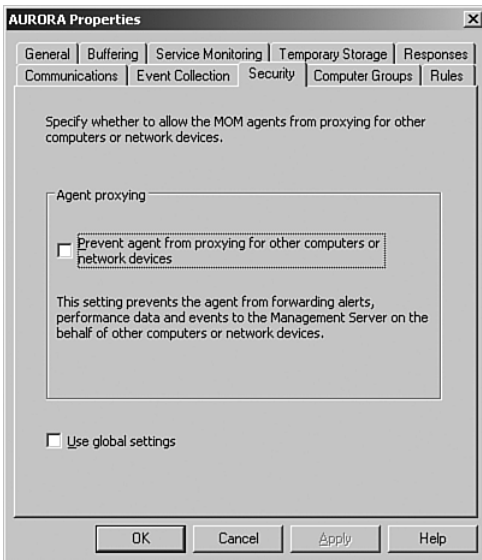

FIGURE 17.5 Computer proxy settings in the Microsoft Exchange Topology Discovery Computers group.
2. In the MOM 2005 Administrator console, under Administration \ Computers \ All Computers, right-click on the computer that you put into the Microsoft Exchange Topology Discovery Computers group. On the Properties page, select the Security tab and clear the Use Global Settings and Prevent Agent from Proxying for Other Computers or Network Devices check boxes, as shown in Figure 17.5.